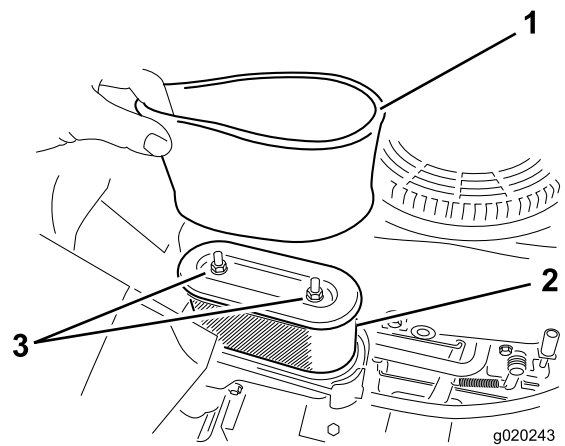

Figure 25
5. Carefully remove the foam and paper filter elements from the air-cleaner housing (Figure 25).
1. Install the foam filter onto the paper filter (Figure 25).